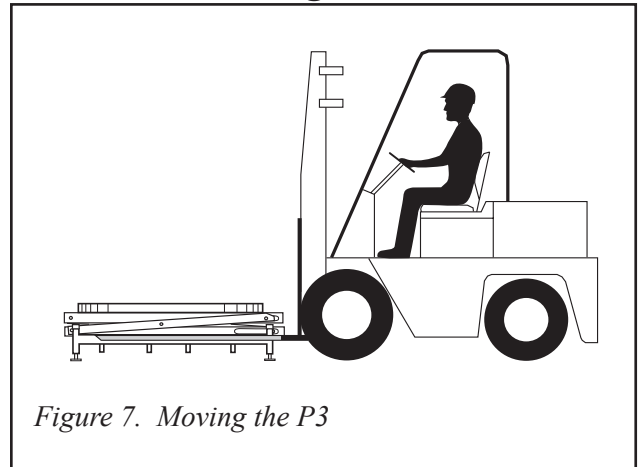

Figure 7. Moving the P3
2. Insert the forks into the pockets in the base frame. See Figure 7.